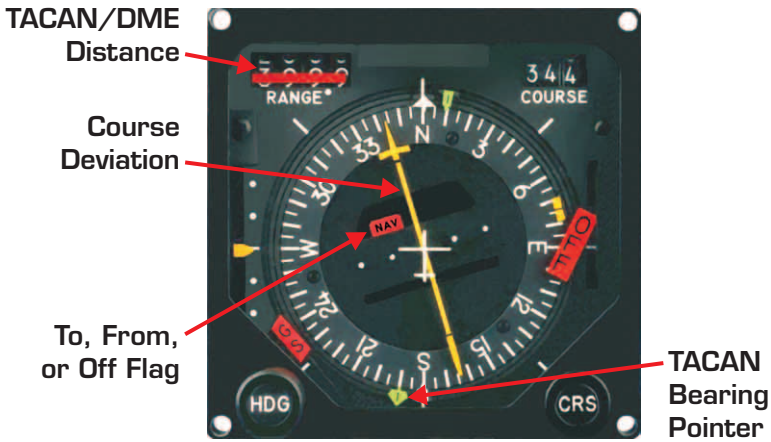

Figure 2-5. TACAN Information on an HSI
The RT-1634(V) is compatible with many other navigation instrument displays such as HSIs (figure 2-5), Course Deviation Indicators (CDIs) (figure 2-6), Radio Magnetic Indicators (RMIs) (figure 2-7), Multi-Function Displays (MFDs), FMSs, Bearing & Distance Horizontal Indicators (BDHIs) (figure 2-8), and EFISs (figures 2-9 and 2-10). These displays include: